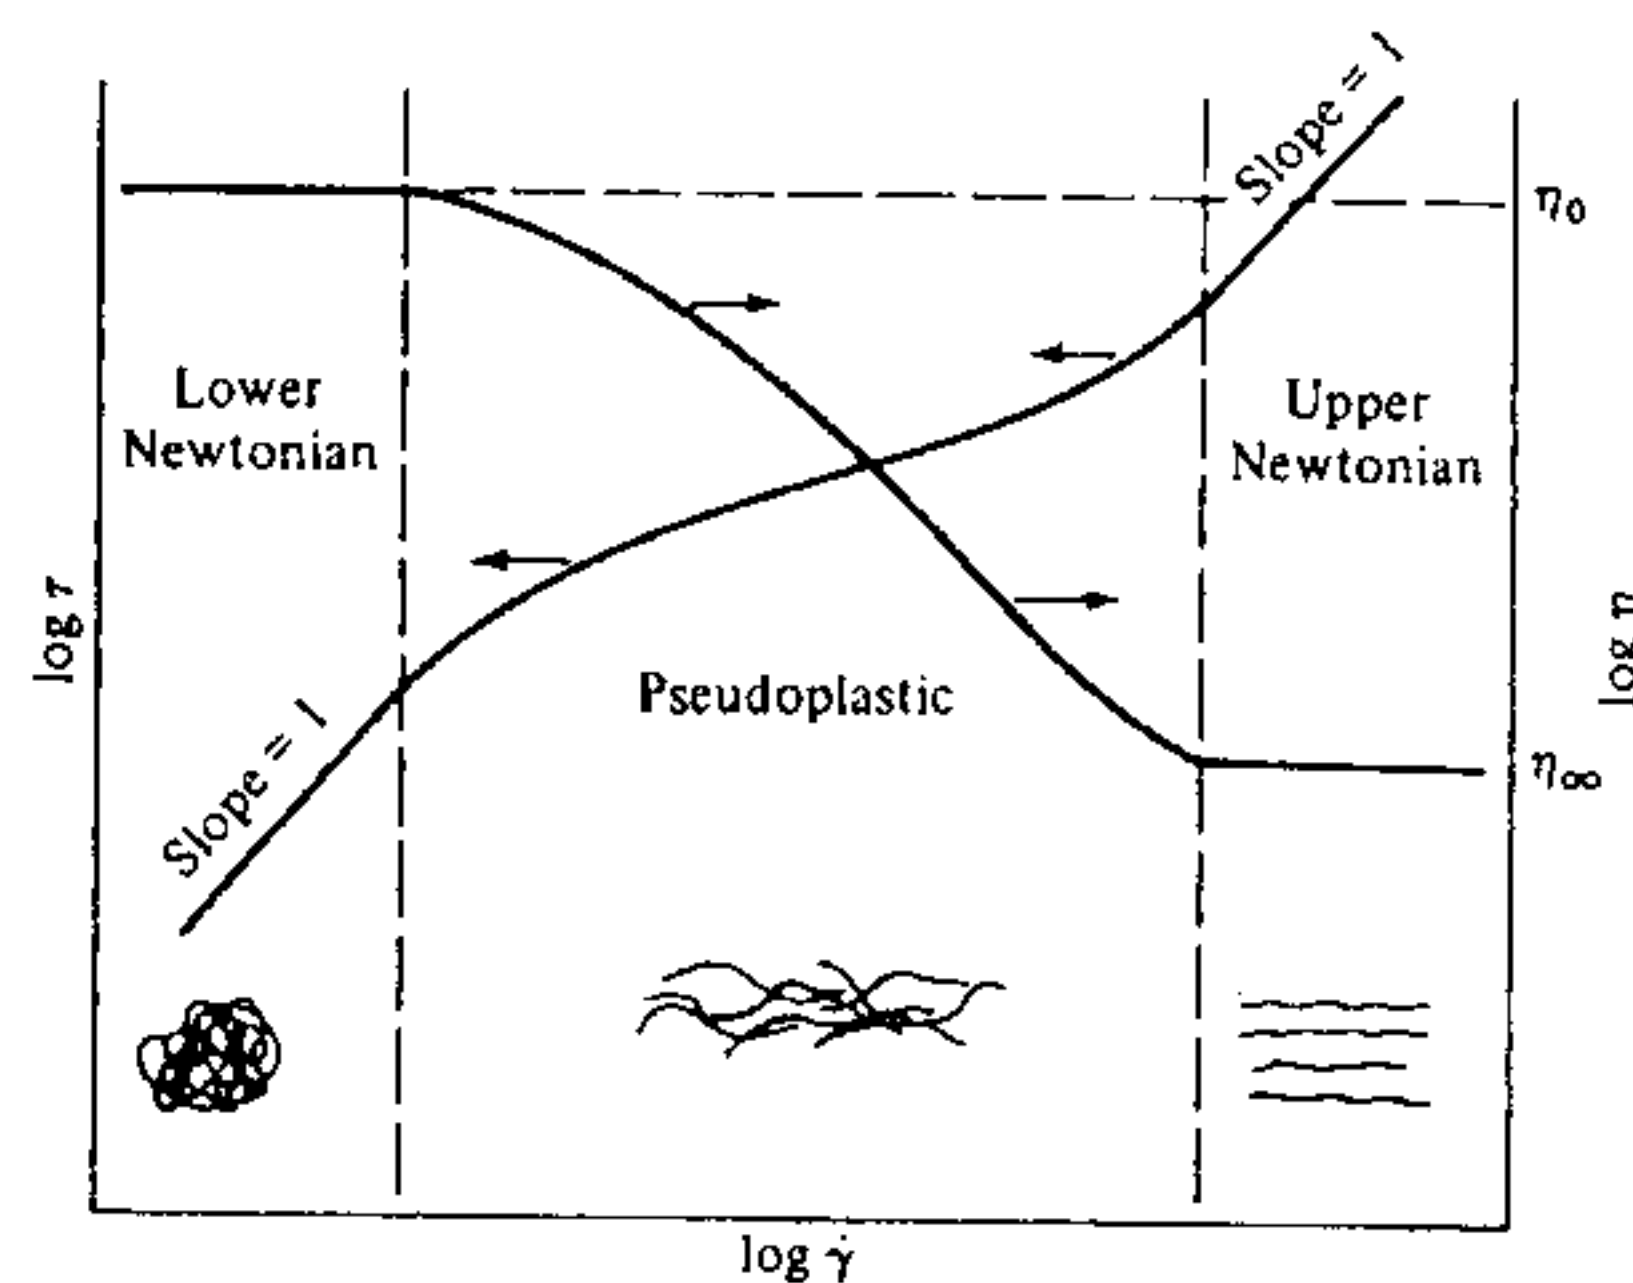

Figure 4 - Generalized flow properties for polymer fluids
- [c] 'Polymer fluids display three characteristic regions of flow properties over a wide range of shear rates (Figure 4)'. Briefly describe this statement.